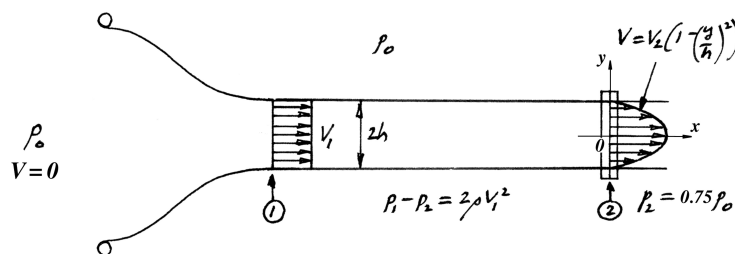

Figure P4.51
4.51 A steady flow of air of constant density ρ is drawn into a duct of constant width w and height $2h$, as shown in Figure P4.51. Viscous effects and energy losses are important only downstream of point 1. The effects of gravity can be neglected. For the velocity distributions and pressures given in the figure: